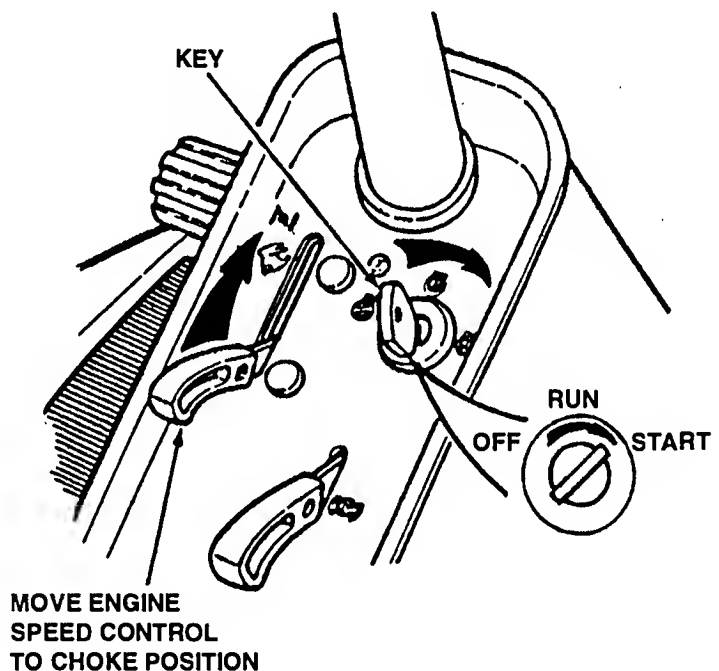

FIGURE 2.7
5. Move engine speed control to the choke position to start engine. See Figure 2.7.
6. Turn key to the "START" position until engine starts. See Figure 2.7. **NOTE:** If after 5 seconds of cranking the engine and it does not start, release the key, make sure the Clutch/Brake Pedal is fully depressed and attempt starting again after waiting for approximately 20 seconds.
5. Move engine speed control to the choke position to start a cold engine. Refer to Figure 2.7.